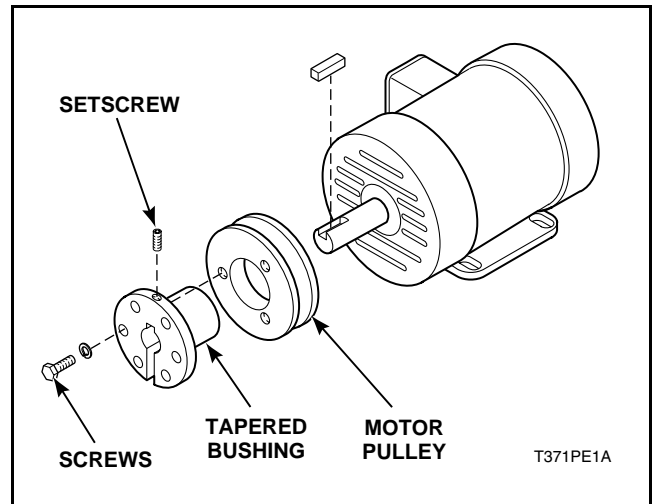

Figure 16
- Loosen setscrews and, remove screws from tapered bushing. Refer to *Figure 16*.
**IMPORTANT:** Realign cylinder motor pulley with step pulley by loosening the tapered bushing and repositioning the motor pulley on the cylinder motor shaft. Refer to *Figure 16*.
- Remove screws from tapered bushing. Refer to *Figure 16*.